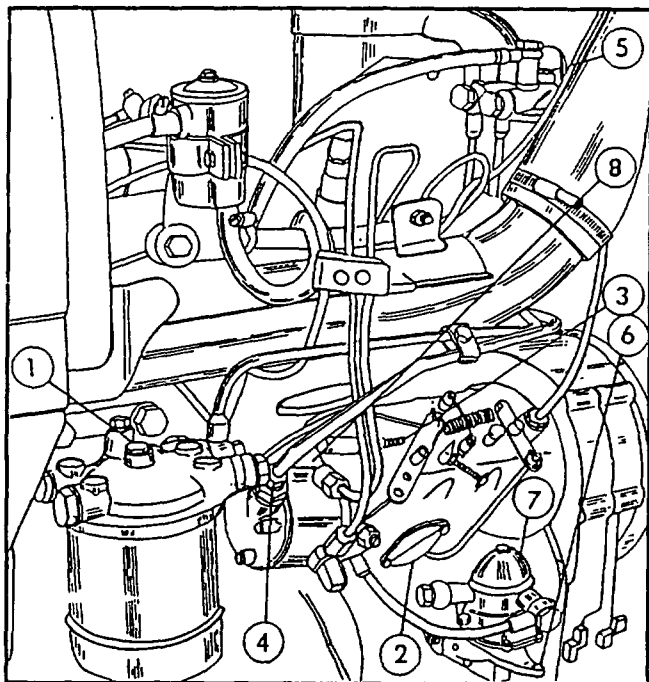

Fig. 62 - Bleeding the Fuel System
After 120 hours of operation, remove the cover from the fuel lift pump and clean the filter (Fig. 62, item 7)